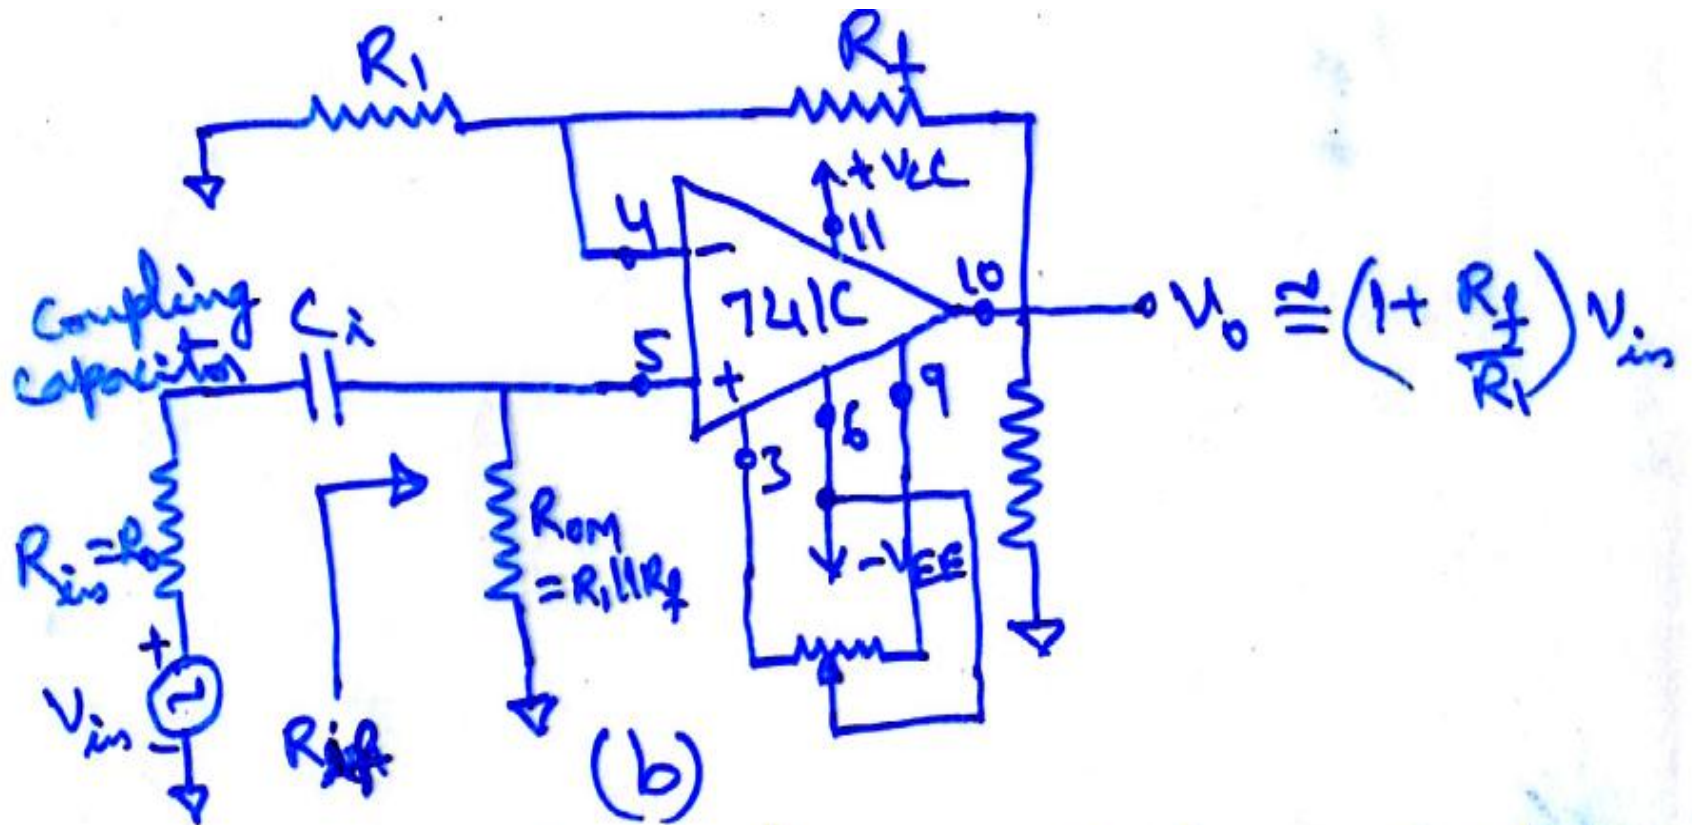

Fig 7-3 (a) AC inverting amp. (b) AC noninverting amp.
- The figure 7-3 shows the AC inverting and non-inverting amplifiers with coupling capacitors.